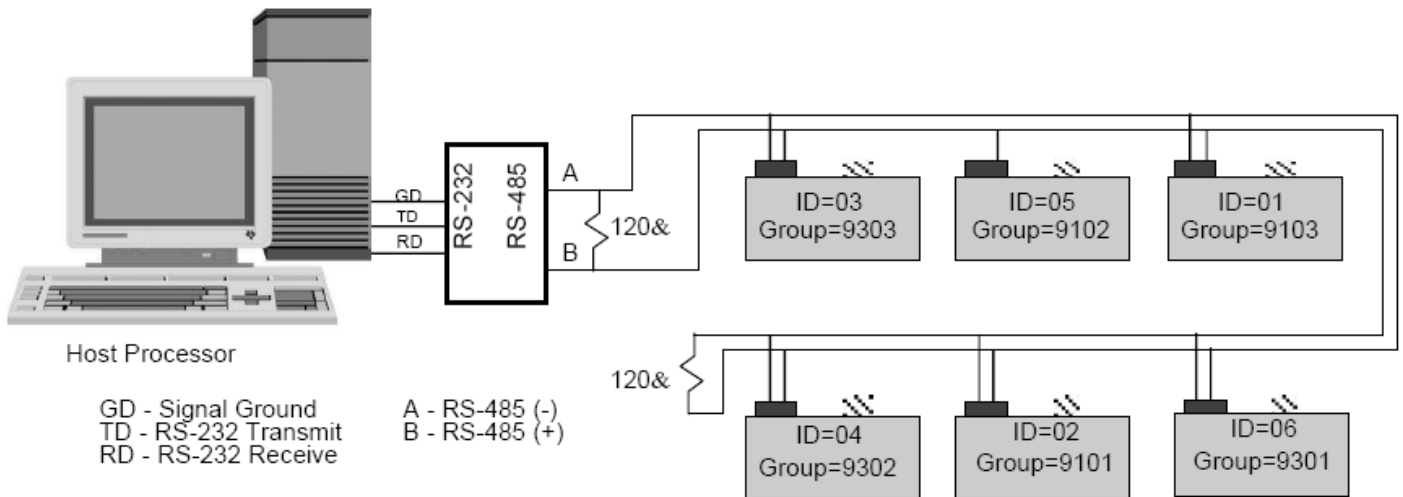

**Figure 4.13—HPB RS-485 Multidrop Network**
An HPB multidrop network connection of six units is shown in Figure 4.13. In this network, the device IDs are not in order from one end of the network to the other. Looking at all the units on the bus, the device IDs are sequential beginning with ID=01 and without duplication. This is an important setup condition if global commands (\*99) are desired.
**Assign Group Numbers:** Once the device IDs are set the group IDs can be assigned. Each unit in the same group must have a sequential sub-address - beginning with 01. The sub-address tells each unit what order it should respond in a group addressed command. To set the group (91) and sub-address (01) for device ID=02, send the following commands: **\*02WE**, **\*02ID=9101**, **\*02WE**, **\*02SP=ALL**. Now when a command is sent to group 91, device ID=02 will be the first one to reply. In Figure 4.13, there are two address groups, 91 and 93; each have 3 HPB units assigned.
When an RS-485 multidrop network has all device IDs properly assigned (Figure 4.13), then global addressed commands can seek replies from all units without conflict. The **TO=N** and **TO=P** commands instruct the units how to reply in this situation. When **TO=N** command is set, each HPB will respond in sequence beginning with ID=01, one right after another. It is important that during this response sequence the host processor, or user, not transmit on the bus until the last unit has finished its message. A carriage return (<cr>) sent during the response sequence will cause the next unit ID to send its response even though the previous unit ID is still transmitting.